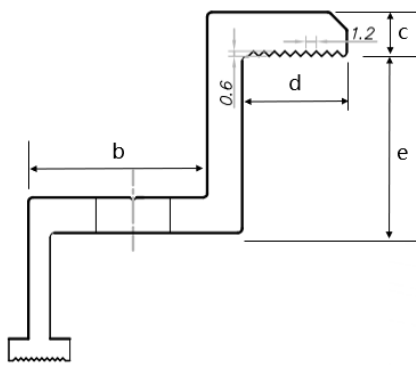

Fig. 8 Cross section diagram of fringe clamp
⑦ To prevent modules from coming off the fixed device after installation, it is suggested to choose fringe and mid clamps and make contact with the A side of the frame with groove patterns. Suggest to have 9 patterns with a space between 2 adjacent patterns of 1.2mm and a depth of 0.6mm, as shown in figure 8.